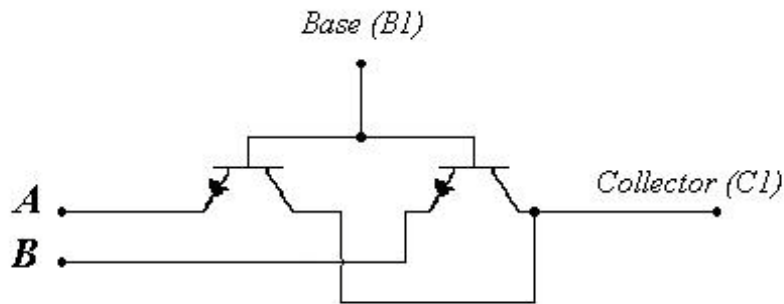

Figure 1 : Forming a " multi-emitter " transistor.
1. Analyze the circuit of Fig.1
2. Simulate circuit of Fig. 1, using PSPICE.
TTL gates are among the most popular logic families, and a variety of gates are available in this family. The major limitation of the TTL gates are among the most popular logic families, and a variety DTL NAND gate studied in Experiment 3 is its speed of operation, which is overcome in the TTL NAND gate studied in this experiment. The input transistor for a TTL NAND gate is a multi-emitter transistor. For this experiment, a "multi-emitter" transistor can be made by using two transistors connected as shown in figure 1.